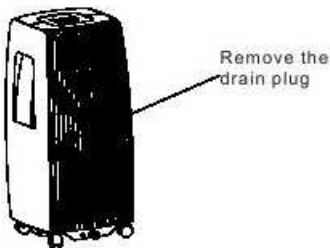

Fig.14
1. Remove drain plug from back of unit. (Fig.14)
- Remove the rubber plug at the back of unit and attach a hose to drain outlet. Place the open end of the hose directly over drain area. (Fig.14&15)